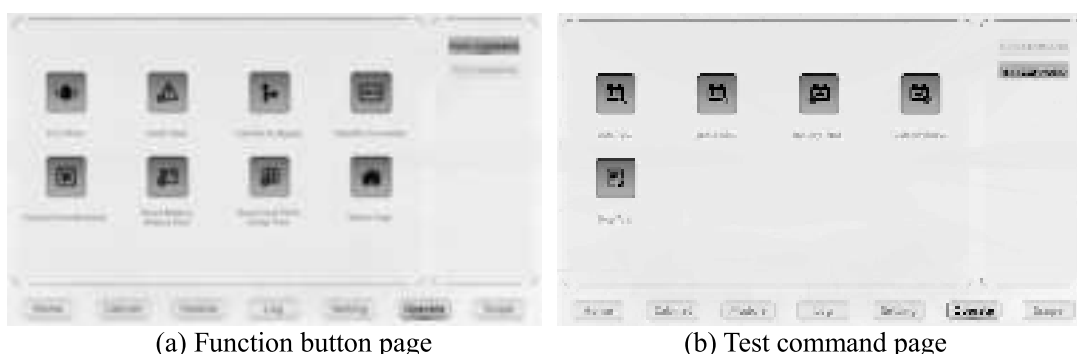

Figure 5-2 Battery Maintenance
1. Manual Discharging test. Enter the menu Operate, as is shown in Figure 5-2 and touch the icon "Battery maintenance" , the system transfers into the Battery mode for discharging, then the battery will have 20% of capacity or in low voltage, users can stop the discharging by touching the "Stop Test" icon .